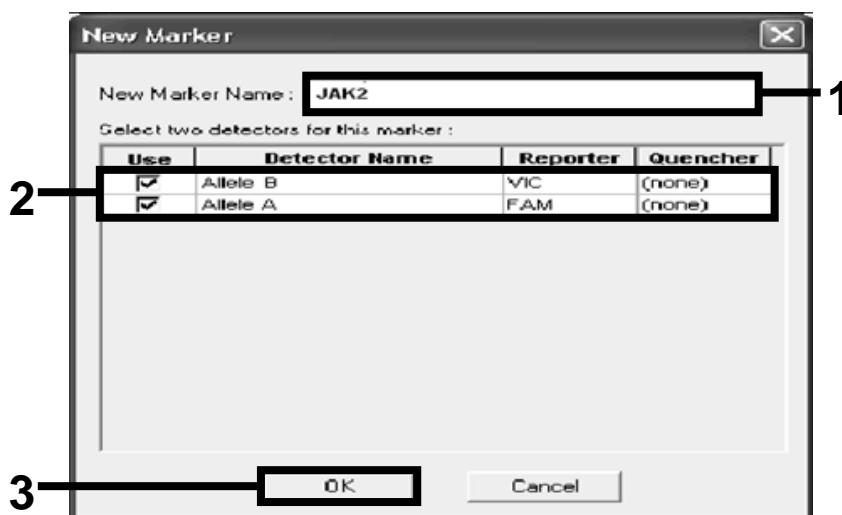

Figure 16. Creating markers.
19. In the "New Marker" dialog box, type *JAK2* in the "New Marker Name" field (Figure 16). Select the "Allele A" and "Allele B" detectors as created in steps 16 and 17 (or already defined), and click "OK" (Figure 16).